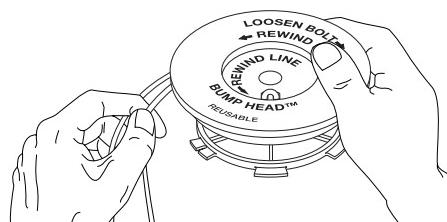

Fig. 16
7. Wind the lines in tight even layers, onto the reel (Fig. 16). Wind the line in the direction indicated on the inner reel. Place your index finger between the two lines to stop the lines from overlapping. Do not overlap the ends of the line. Proceed to step 11.
8. Take approximately 9 feet (3 m) of new trimming line. Insert one end of the line through one of the two holes in the inner reel (Fig. 16). Pull the line through the inner reel until only about 4 inches is left out.